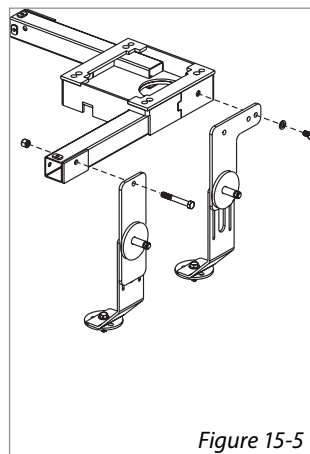

Figure 15-5
- Attach vertical joiners to base** using supplied hardware as indicated. [Figure 15-5]